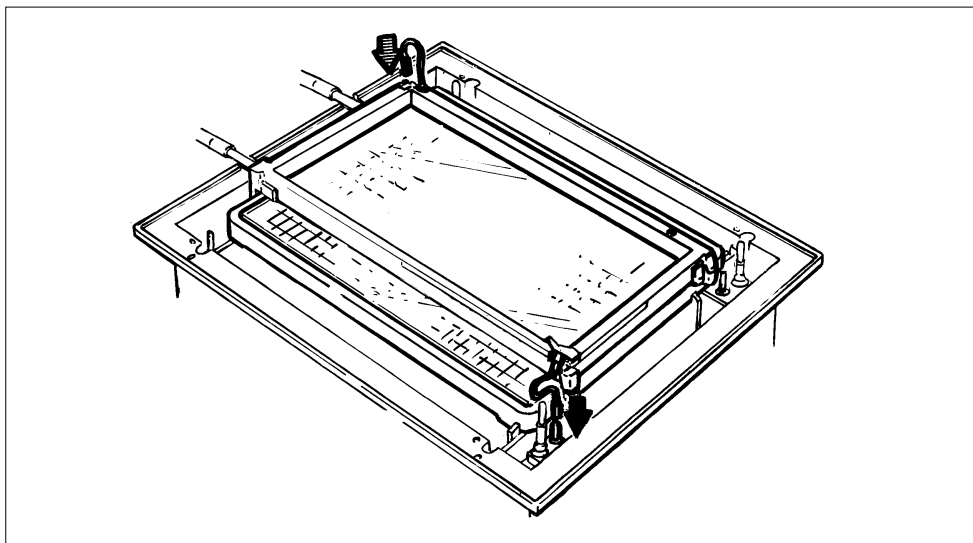

Fig. 7.
- Connect the red and black electrode leads on the tray to Multiphor II Unit (Fig. 7).